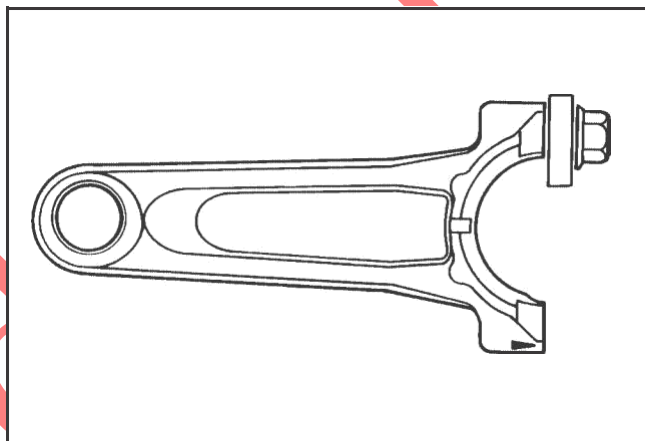

Figure 2-2. Rocker Arm/Crankshaft Tool.
4. Use a flat washer with the correct I.D. to slip on the capscrew and approximately 1" O.D. (Kohler Part No. 12 468 05-S). Assemble the capscrew and washer to the joint surface of the rod, as shown in Figure 2-2.